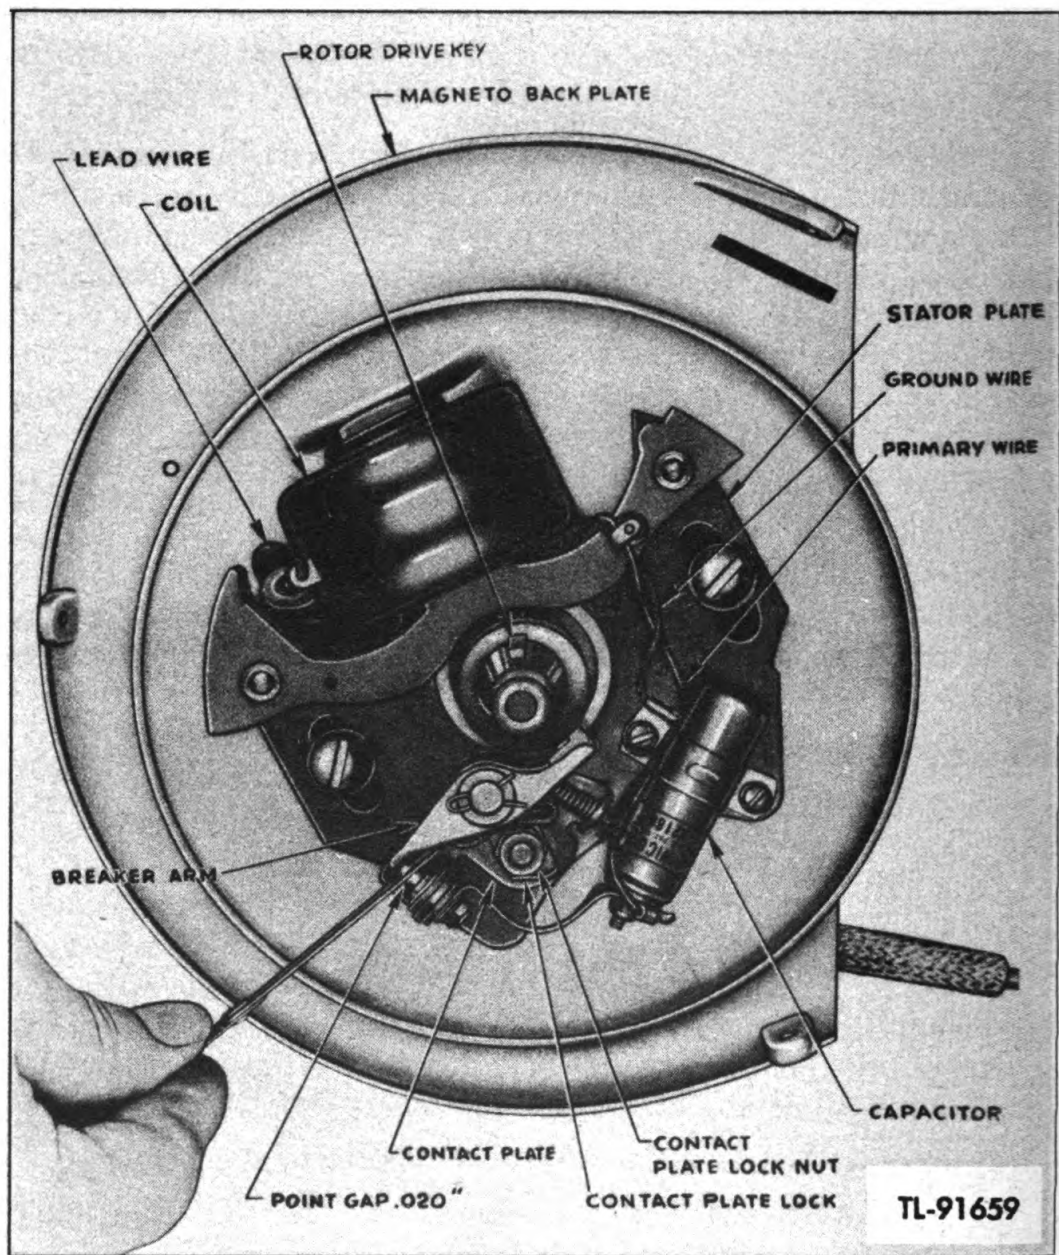

Figure 11. Magneto point adjustment
(g) Check the opening (fig. 11) with feeler gauge. Correct opening is 0.020 inch.
(4) If the points need resetting, bend down the contact plate lock (fig. 11), loosen the locknut which holds the breaker plate in position, and move the plate up or down as necessary to obtain the proper point opening. After the setting is accomplished, be sure to tighten the locknut and bend the ear of the plate lock against the flat of the locknut so it cannot loosen up.
(5) The breaker-plate setting should be made only in the manner prescribed. At no time should the fixed contact on the plate be loosened or the breaker arm bent to provide adjustment.
(6) The moving contact is integral with the breaker arm. In replacing the breaker arm, make certain the breaker-arm bushing is in place. If either one of the contact points needs replacing, change both of them at the same time to insure satisfactory operation.
(7) The breaker-arm bearing is packed with a cam lubricant at the time of assembly and should not require additional lubrication. A small amount of this lubricant is also packed on the breaker-arm cam wiper and wipes off on the cam surface, providing permanent lubrication between these rubbing surfaces.
(8) Uneven or pitted points may be restored to a true even condition by using the point cleaner furnished with the equipment. Be sure to remove all dust particles after servicing the points. If the points are in need of extensive dressing, replace them.
c. To time magneto. If, for any reason, the magneto assembly is removed from the engine, follow these directions for proper timing (see fig. 11):
(1) Check the point opening as outlined in subparagraph b (3).
(2) Remove the cylinder head baffle, then the spark plug shield and the spark plug.
(3) Turn the crankshaft in direction of engine rotation (to the right) until the piston reaches top dead center.
(4) Insert the small narrow rod furnished with equipment through the spark plug hole in the cylinder head until it touches top of piston.
(5) The lower edge of recess on the rod should then be flush with the top of spark plug hole.
(6) Then withdraw the rod.